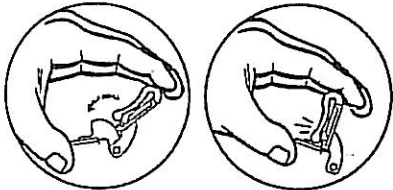

Figure 6. Closing the hinge.
- Close the hinge so that it snaps shut (see Figure 6). The hinges can be used to mount the door on the right or left side of the cabinet.